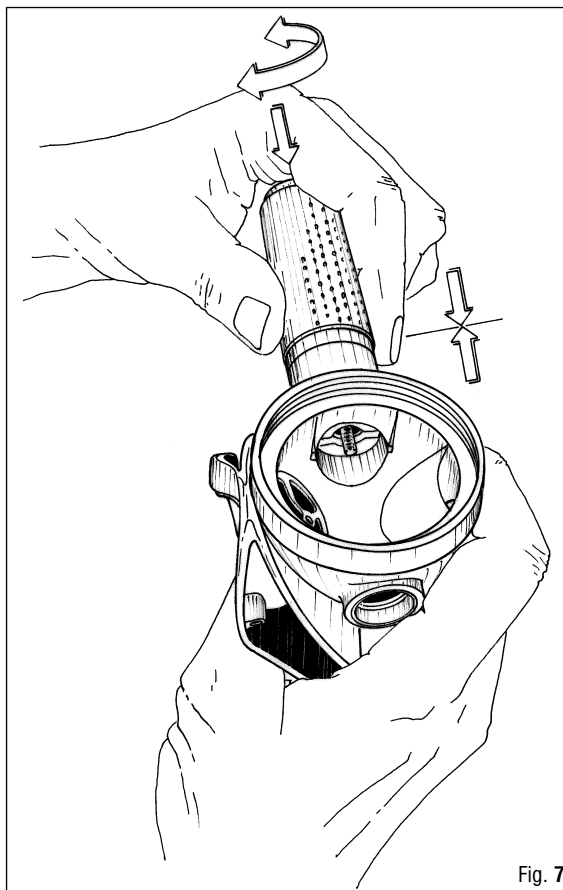

Fig. 7
- B. 3** Insert the special tool (B-36) (Cod. 46200383) into the 2nd stage case assembly connector until it engages the bushing (165) (Fig. 7).